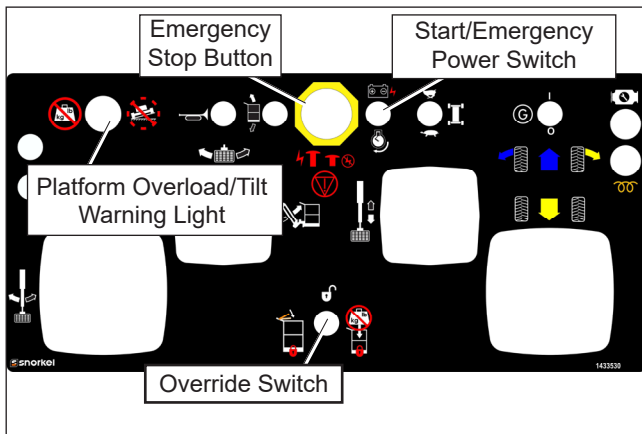

Figure 10.3 – Upper Control Station
1. Pull the emergency stop button outward (refer to Figure 10.3).
When the platform overload system is activated, the override or the emergency power switch (refer to Figure 10.3) at the upper controls may be used to override the system to operate main boom up/down/retract, jib boom up/down, or turntable rotation and drive functions. The switch is spring returned to the normal operation position.
When the Snorkel Guard system is activated, the override switch (refer to Figure 10.3) at the upper controls may be used to override the system to operate main boom up/down/retract, jib boom up/down and turntable rotation functions.